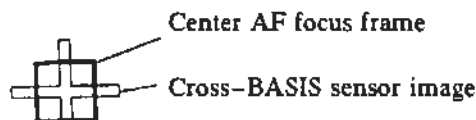

Fig. 1 Adjust
- Shine the light source through the AF sensor. Look through the lens and the image should look like figure 1.